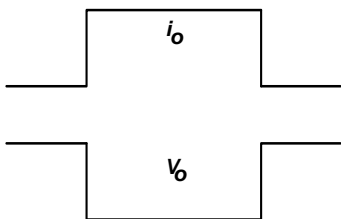

FIGURE 15. DESIRED LOAD TRANSIENT RESPONSE WAVEFORMS
Assuming the compensator design is correct, Figure 15 shows the expected load transient response waveforms if  $C_n$  is correctly selected. When the load current  $I_{core}$  has a square change, the output voltage  $V_{core}$  also has a square response.
Figure 15 shows the desired load transient response waveforms. Figure 21 shows the equivalent circuit of a voltage regulator (VR) with the droop function. A VR is equivalent to a voltage source (= VID) and output impedance  $Z_{\text{out}}(\text{s})$ . If  $Z_{\text{out}}(\text{s})$  is equal to the load line slope LL, i.e. constant output impedance, in the entire frequency range,  $V_o$  will have square response when  $I_o$  has a square change.